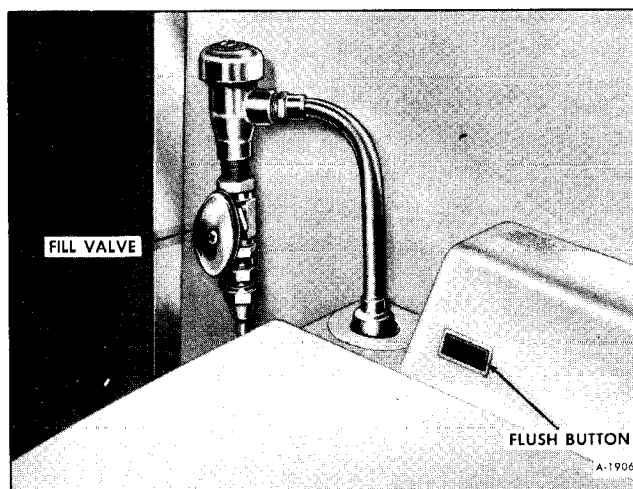

Figure 2-Toilet Water Fill Connection
2. Disconnect toilet water fill line shown in Figure 2, and disconnect the toilet wires.
4. Connect toilet water fill line and wires (figure 2).